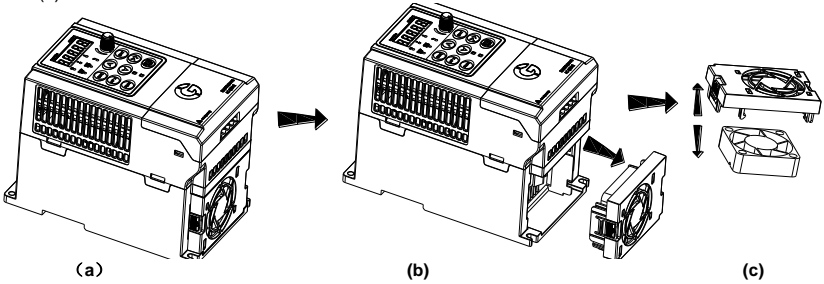

Figure 8-2 Install the fan
1. Clip fan vertically into the fan cover shown as figure 8-2(a)
2. Press elastic buckles of fan lead terminals towards internal down side with fingers shown as figure 8-2(b), meanwhile plug the lead terminal
3. Vertically plug two elastic buckles of fan cover into the fan mounting rail of inverter shown as figure 8-2(c)